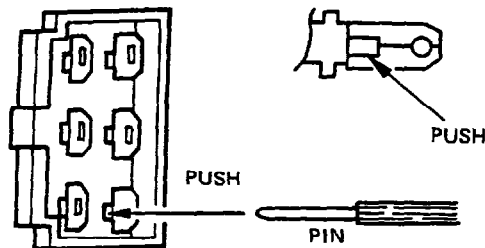

Fig. 10-13
<p>(2) Separate the stator and rear cover. Separate the connector and wire. Push the terminal locks in the connector with a pin having a needle-like sharp point, and remove the terminals, (See Fig. 10-13.)</p>	<p>It is not necessary to separate the stator and rear cover except when replacing the stator, rear cover, or diode stack.</p>